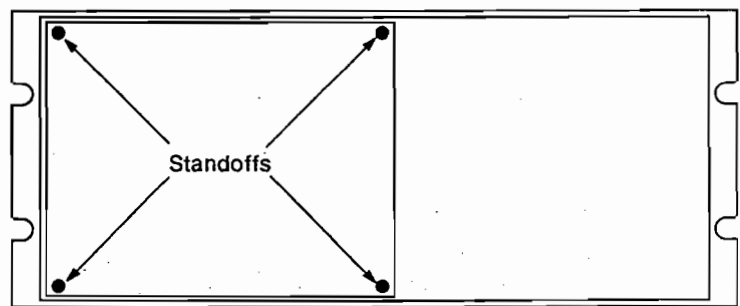

Figure 2-4. Attaching the 7B Series Backplane to the Rack-Mount Panel
2. Insert four 6-32 x 1" screws, shipped with the 7B Series backplane, through the standoffs in the four corners of the backplane and into the threaded inserts on the rack-mount panel. Refer to Figure 2-4.